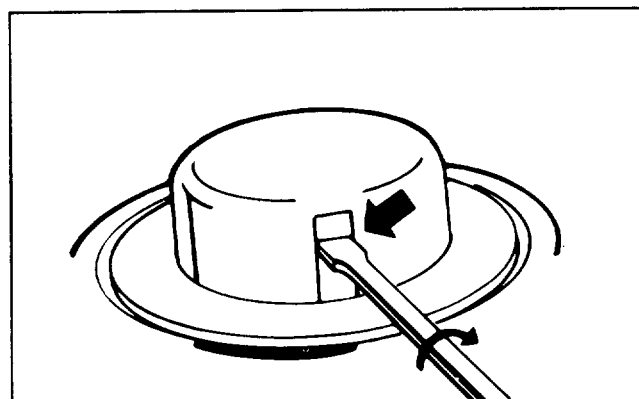

Figure 10
2. To remove empty spool, insert medium blade screwdriver in one of two window slots on spool hub and twist screwdriver 1/4 turn (Fig. 10). Spool will snap off.